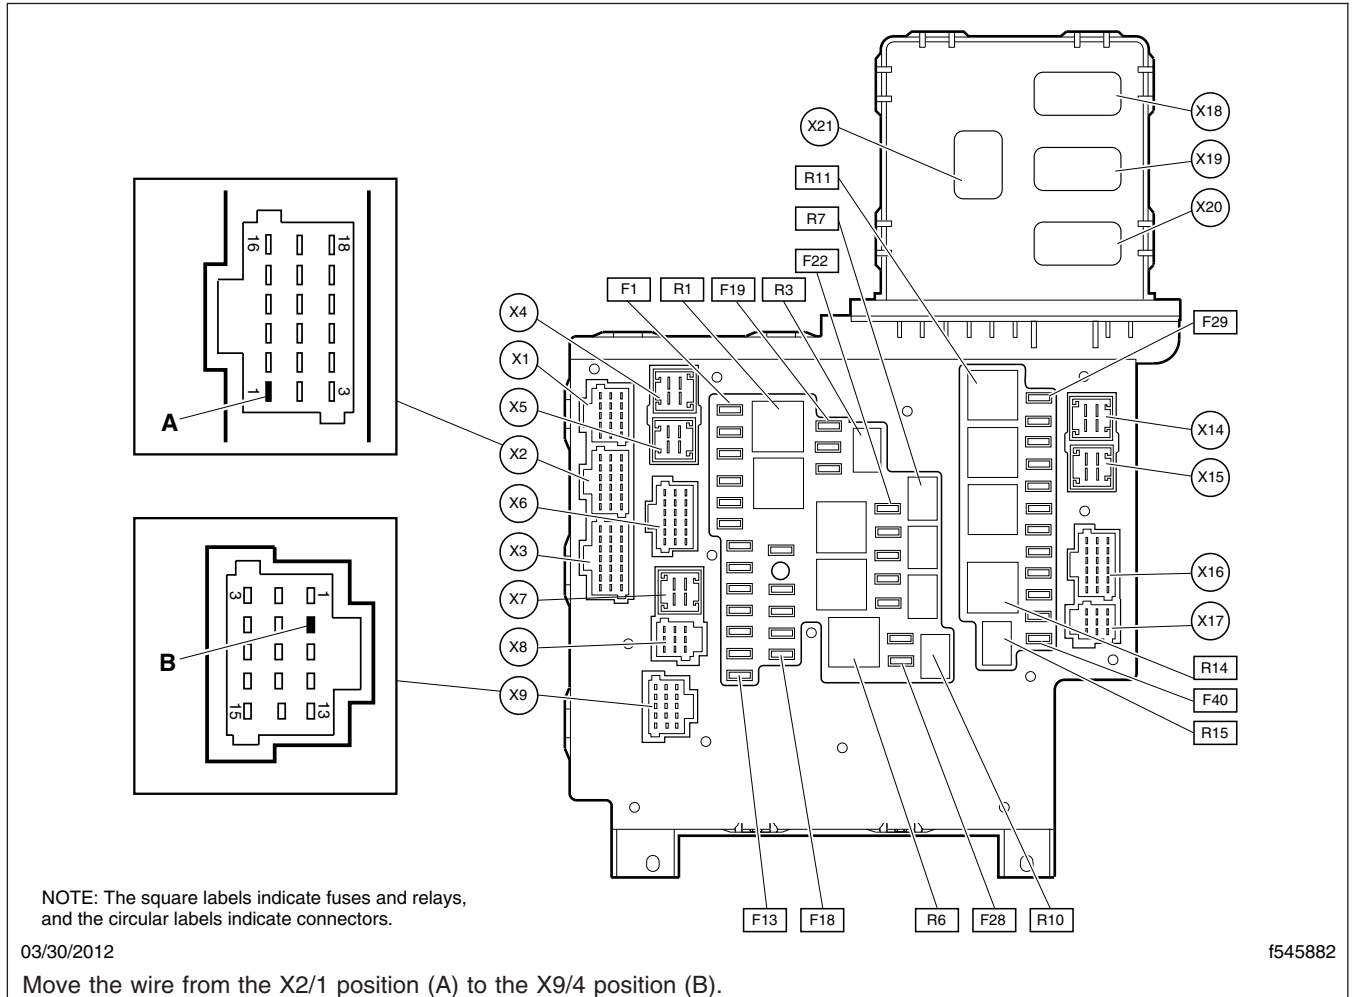
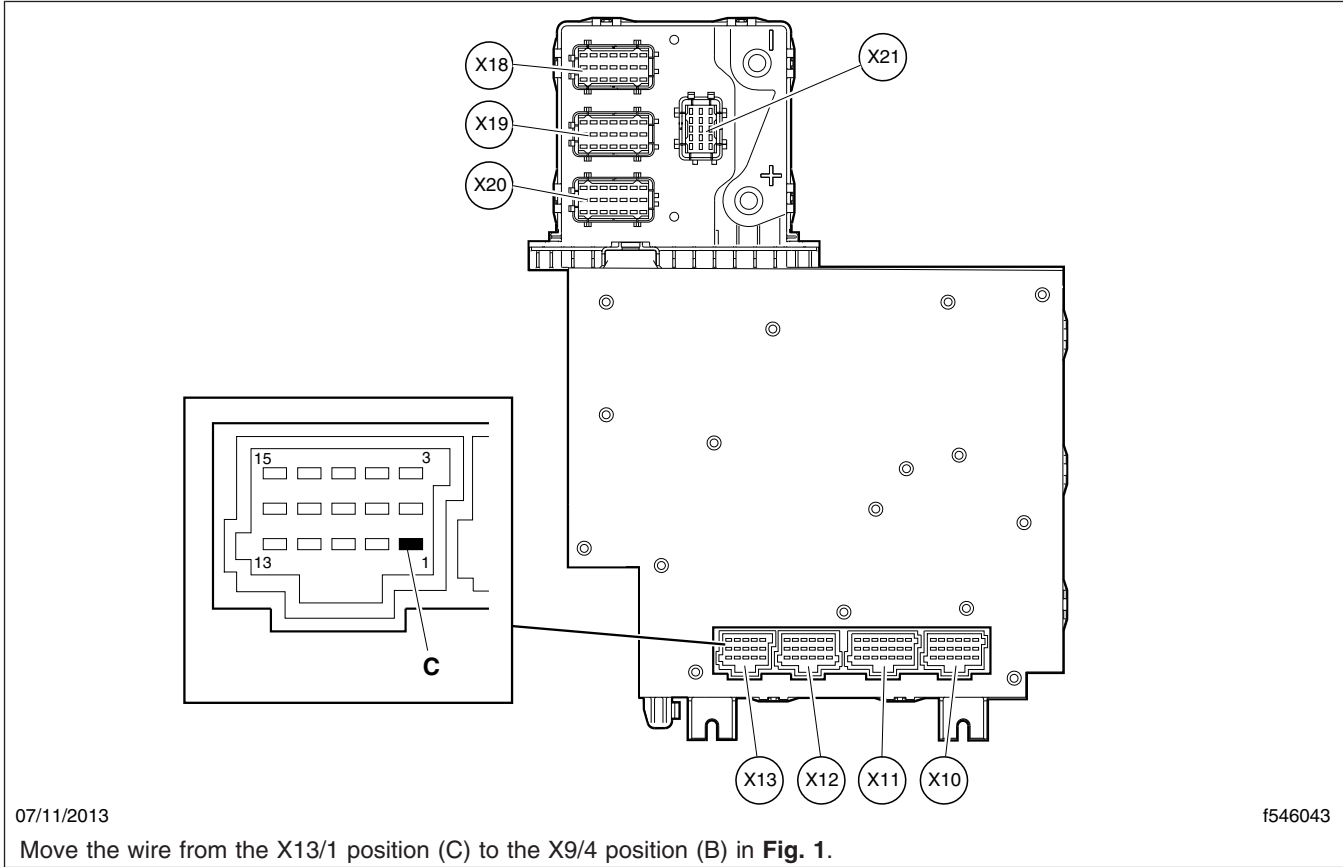

Fig. 2, SAM Cab (bottom view)
Fig. 3, SAM Cab (top view)
3. Remove the pin from the existing location and relocate it to the desired output. See Fig. 2 for SAM Cab pin X2/1 and X9/4 connector locations, and Fig. 3 for SAM Cab X13/1 connector location.